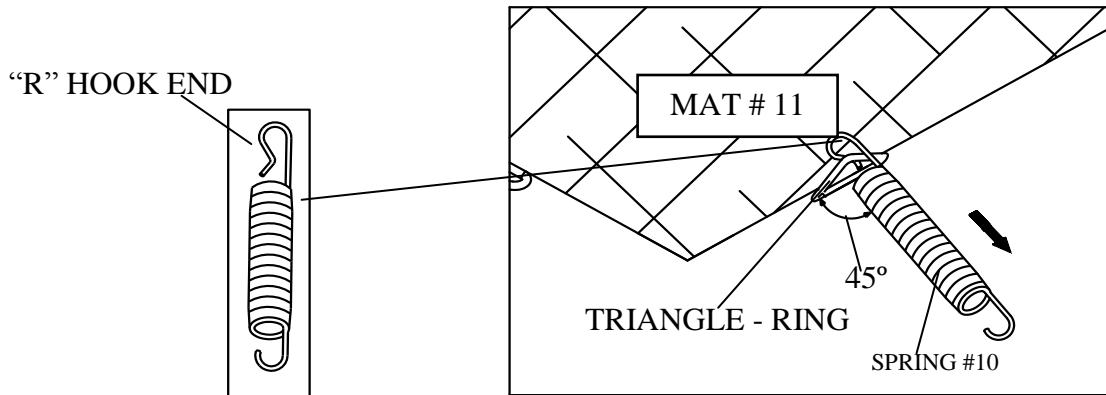

FIGURE 11
STEP 10 - Attach the SPRING #10 with “R” hook end to the triangle ring on the mat as shown in FIGURE 11.